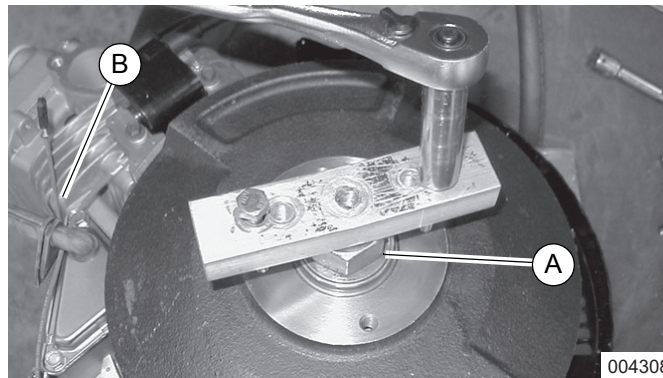

Figure 4-14. Removing Flywheel
3. Using a socket wrench (B), loosen mounting screws so magnet will pull ignition coil against the shim.
NOTE: See Figure 4-14. Route ignition coil ground wire (B) under breather tube and away from flywheel.
5. See Figure 4-14. Tighten puller screws equally until flywheel loosens.
1. See Figure 4-14. Check flywheel key and keyway (A) for damage.